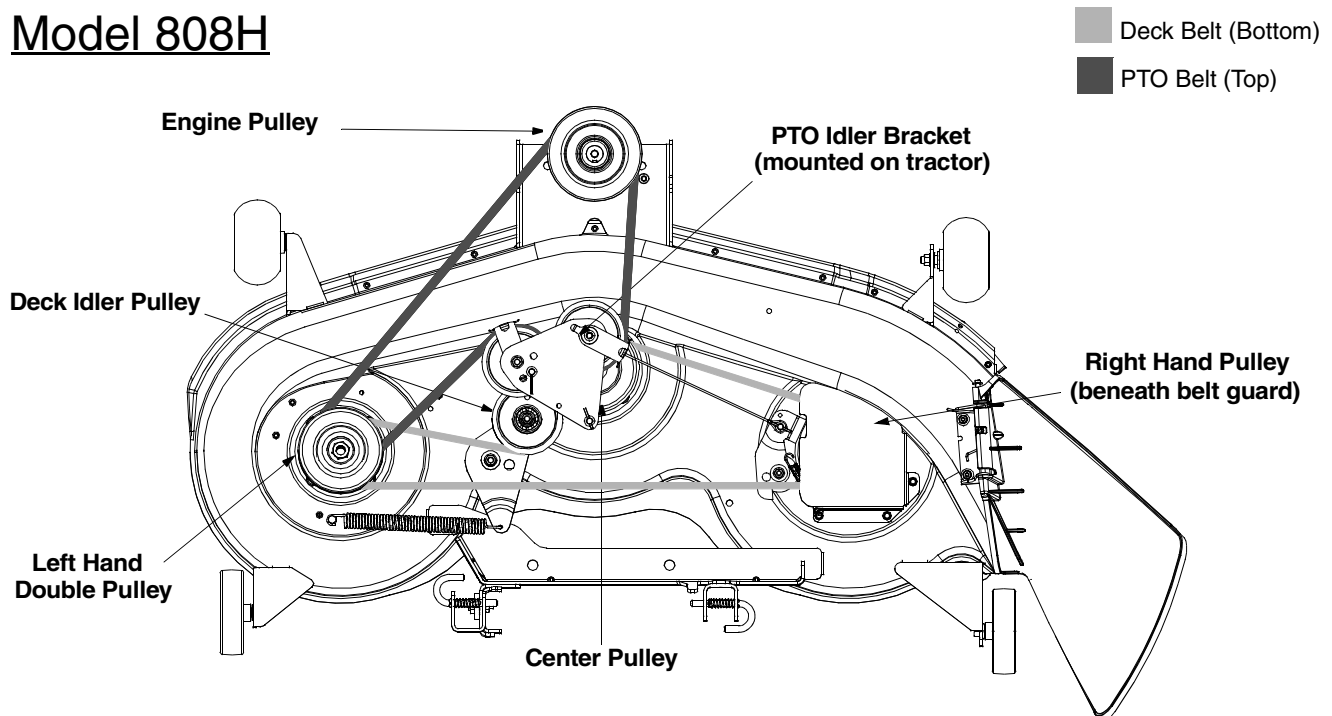
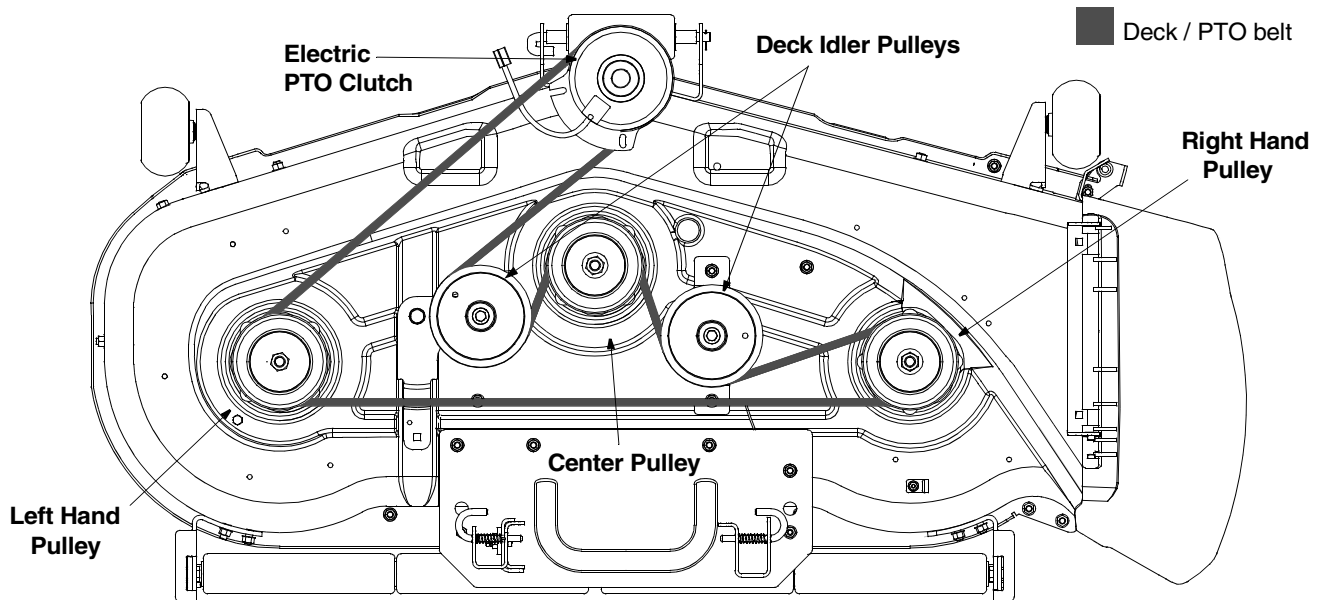

Figure 14
Figure 15
- Remove the PTO belt from around the electric PTO clutch. Refer to Figure 14.
- According to your tractor model, route the new belts as shown in Figure 14 or Figure 15.